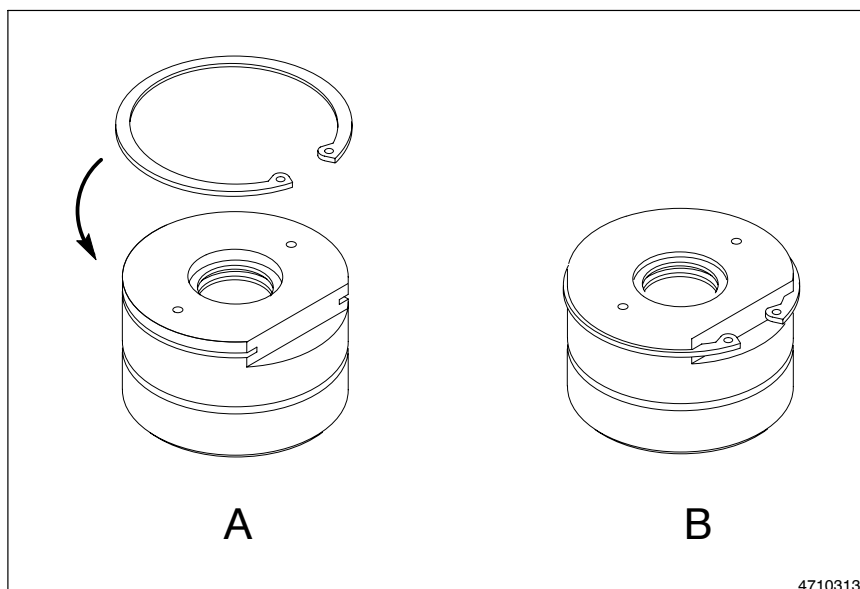

Fig. 7-47 Installing the Retaining Ring on the Cylinder Head Assembly
3. See Figure 7-47. Place the retaining ring in its groove on the cylinder head assembly.